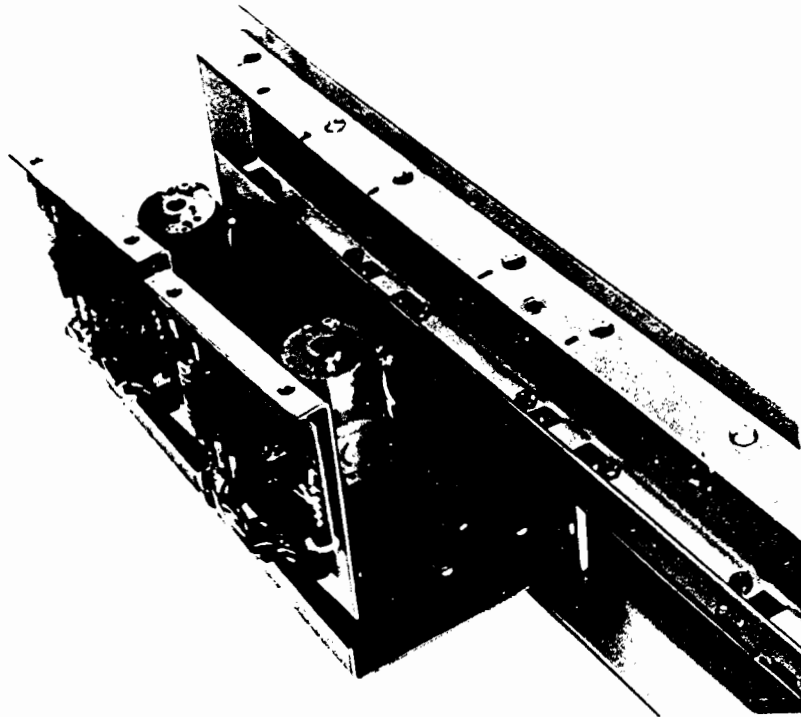

Figure 5-3. Front panel with tape unit
8. To remove a tape unit, remove the four screws and remove the unit, see Figure 5-3.